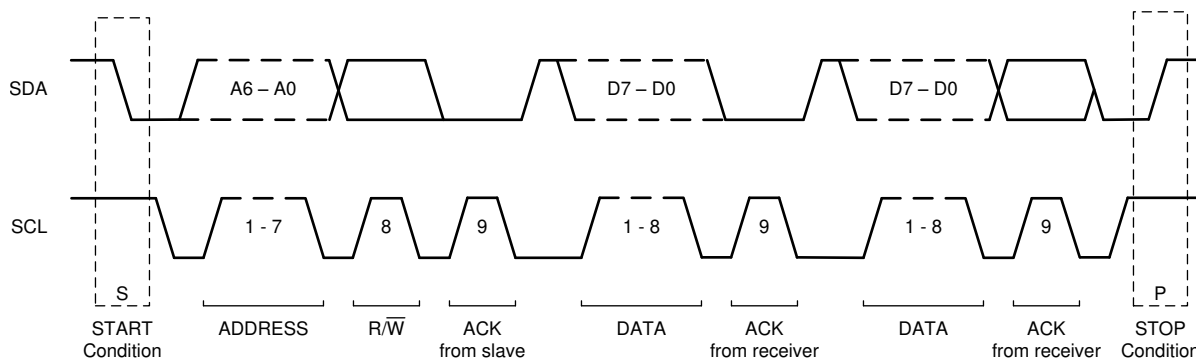

Figure 34. I2C Data Transfer Format
Figure 34 shows the format of the data transfer. The master initiates all transactions with the ADS1119 by generating a START (S) condition. A high-to-low transition on the SDA line while SCL is high defines a START condition. The bus is considered to be busy after the START condition.